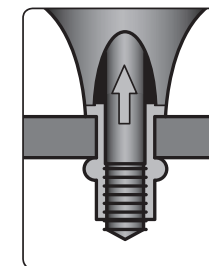

Fig. 6
- 6) Firmly hold the rivet drill adapter in your hand, maintain a stable stance and the clockwise rotation of the chuck head will result in the connection of two parts (fig. 6).